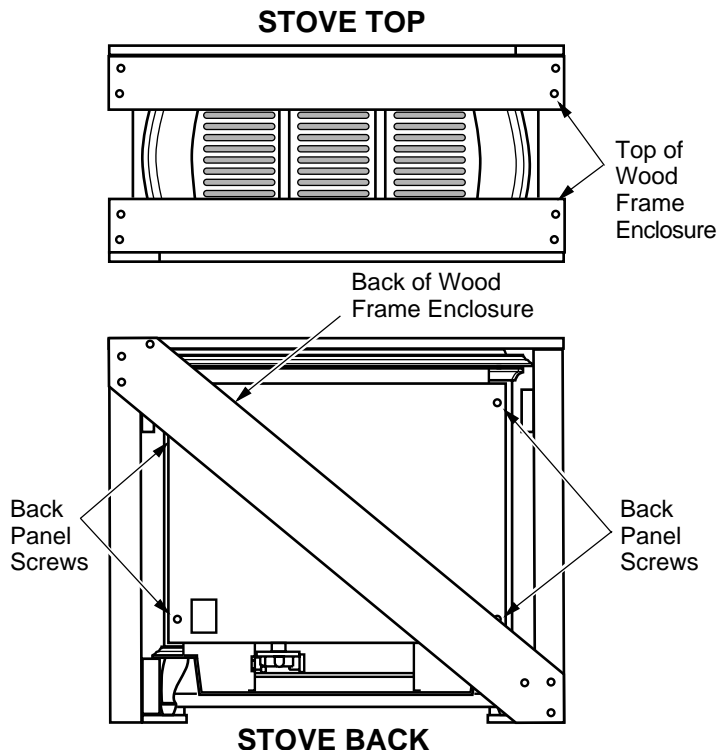

Figure 4 - Unpacking Stove from Wooden Shipping Enclosure
4. Remove back panel from stove (see Figure 4). Use an adjustable wrench or a 10 mm socket. Remove four (4) bolts and washers. Keep bolts and washers to reattach back panel later.